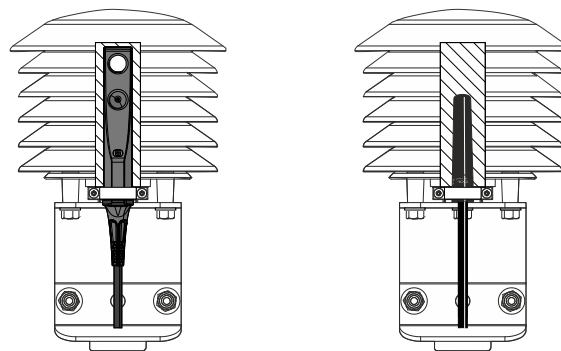

Figure 1
- Step 2:** Slide the sensor completely into the radiation shield. Make sure that the sensor is inserted as far as possible. See Figure 1.